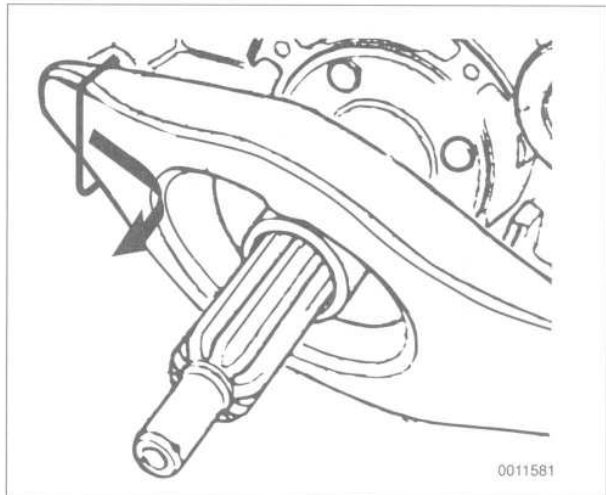

Fig. 6. Remove clutch release lever by removing from spring clip in direction of arrow.
3. Pull the release bearing off of the transmission input shaft. Remove the clutch release lever by sliding it out of the spring clip. See Fig. 6.